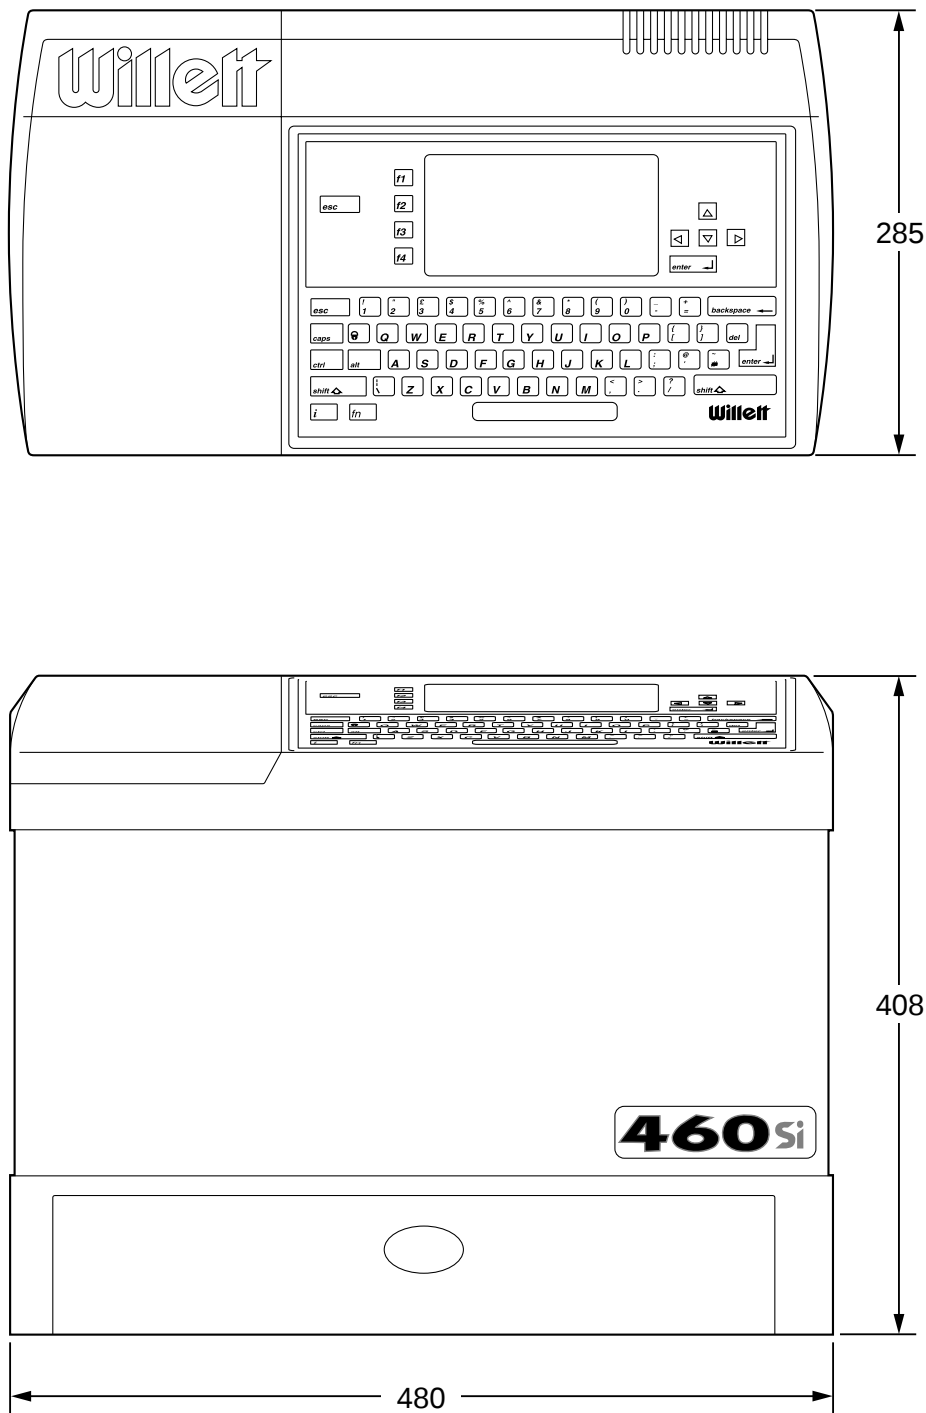

Fig 2 Printer cabinet dimensions (mm)
- 8.1 See Figs 2 and 3 for machine dimensions.